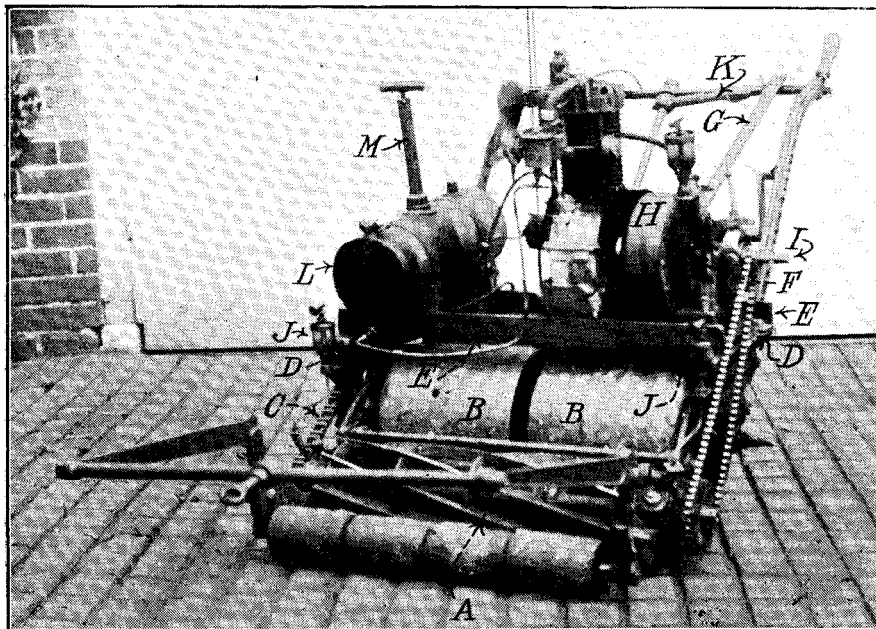

Fig. 1.—View of the Motor-driven Lawn Mower.
Although of old design, and incomplete in all its parts, the main portions of the machine proved to be in good order. It was of the usual pattern, designed to be drawn by a pony, the man steering by handles from behind. Fig. 1 gives a good idea of the general arrangement of the machine. (A) cutting cylinder, (R) rollers, (C) chain, cylinder to rollers, (D) angle-brackets, (E) angle crossbars, (F) clutch, (G) clutch lever, (H) flywheel, (I) clutch shaft, (J) cylinder bearing lubricators, (K) handle for roller clutches, (L) petrol and oil tank, (M) air pressure pump. The rollers, as in practically all large machines, are in two halves to facilitate turning, while connecting each roller to the shaft which supports them is a spring-operated toothed-clutch, designed to allow either roller to freewheel going round a corner. Both clutches can be disengaged at will by means of a handle. As will be seen later these clutches introduced a complication when the question of the drive from the motor came to be considered.